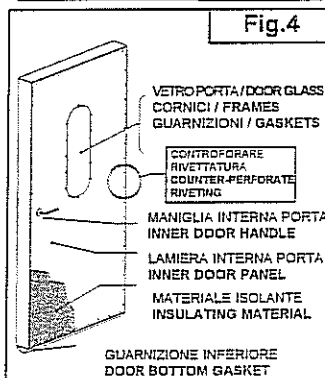

Fig.4
-Staccare la lamiera interna porta ed accedere al materiale isolante Fig.4
-Detach the inside panel of the door and remove the insulating material Fig. 4.